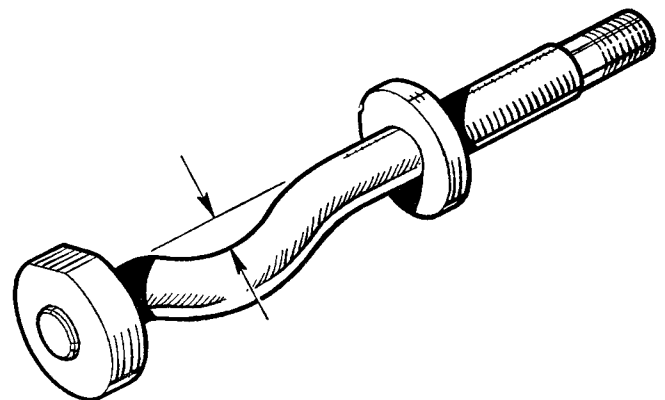

Fig. G.7
- (28) Refitting is a reversal of the removing procedure given in Section K.3.
- (29) When fitting a replacement drive shaft assembly (of the type fitted with a rubber boot on the sliding joint) to the left-hand side of an early model, it will also be necessary to fit a modified lower arm inner pivot pin to ensure sufficient clearance for the rubber boot. Reference should be made to Fig. G.7 for the dimension of the modified pivot pin.